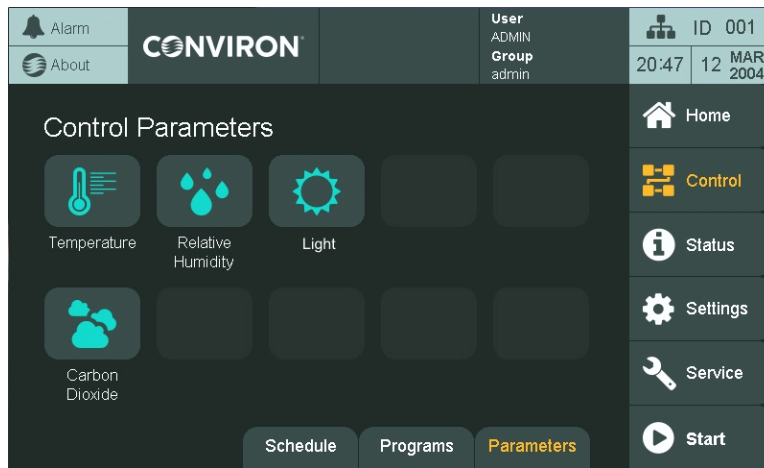

Figure 5-27 Control Parameters Screen
1. On the control system display, tap **Control**, and tap **Parameters**. The Control Parameters screen appears (Figure 5-27).